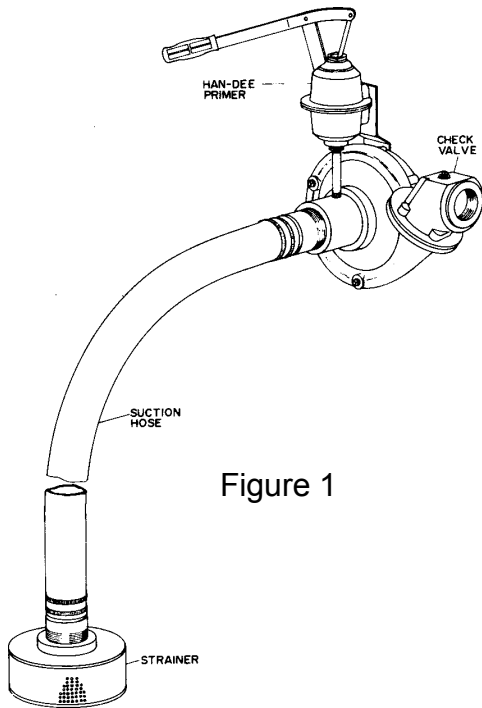

Figure 1
- c) Suction Hose: Use non-collapsible suction hose or pipe. Line size should be at least as large as the suction side tapping of the pump. Do not use concentric fittings or pipe reducer bushings to increase the size of suction pipe. Eccentric fittings should be used and should have an angle no greater than 28°. Valves should not be installed in a suction line unless coupled with a booster pump. Never throttle a pump from the suction side. A straight pipe length at the pump's suction entrance should be at least six times the suction diameter. All threaded pipe joints and connections should be thoroughly tightened. A horizontal suction line must have a gradual upward slope to the pump so that the highest point in the suction line is at the pump. Leaks in the suction line reduce pump performance. See figures 1&2. When the suction pipe is connected to a tank, a baffle should be installed between the incoming liquid and the suction pipe inlet to prevent air from entering the suction pipe. If the liquid being pumped contains solids, a strainer must be used. The strainer should have a free opening area of at least three times the area of the suction pipe. The end of the suction pipe should be submerged in the fluid a distance of at least four to five times the diameter. Always support lines independently from the pump near the pump casing.